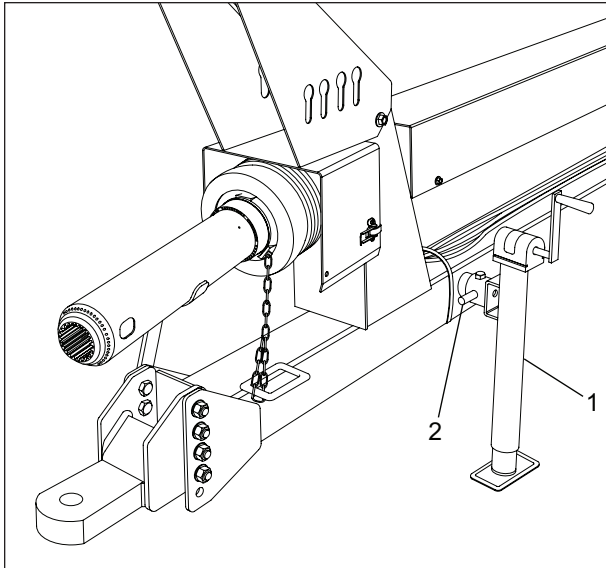

Figure 2 Vérin manuel
- Vérin manuel (figure 2)
### VÉRIN MANUEL - FIGURE 2